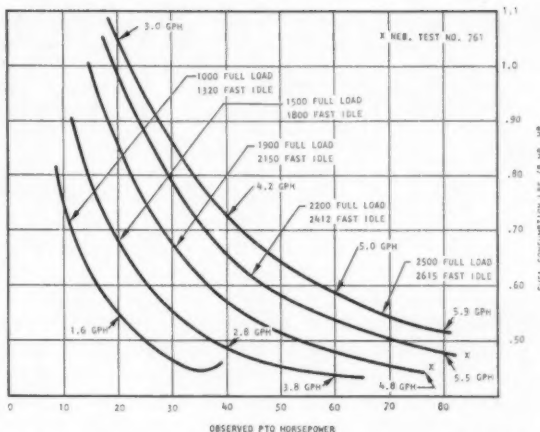

Fig. 6 Variable-load characteristic (John Deere 4010 diesel tractor)
- (c) It permits the operator to match the tractor to the desired work from the standpoint of power by proper selection of a gear ratio and engine operating speed, thereby saving fuel for the light loads as compared to a single operating speed. This results in substantial fuel savings for light load operation. Fig. 6 shows representative savings.